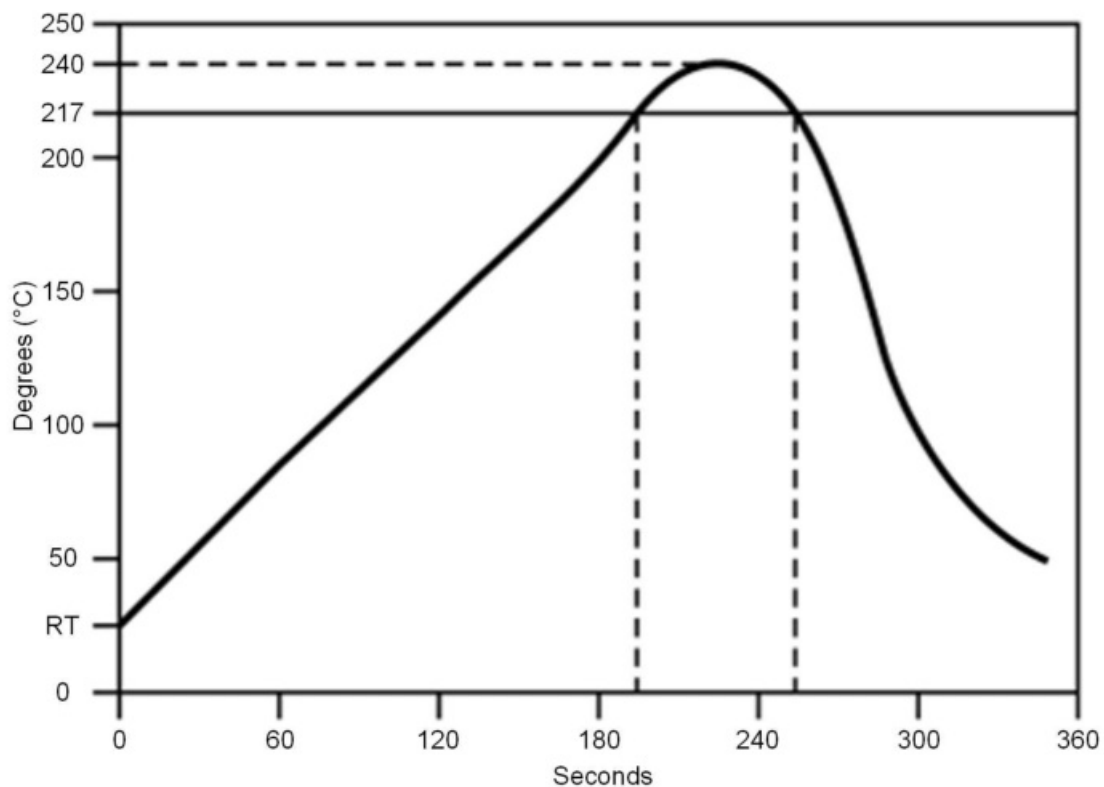

Figure 11-1. Temperature Profile for Evaluation of Solder Heat Resistance of a Component (at Solder Joint)
- Temperature measurement: Thermocouple $d = 0.1$ mm to 0.2 mm CA (K) or CC (T) at soldering portion or equivalent method
- Allowable reflow soldering times: 2 times based on the reflow soldering profile (see Figure 11-1)
- Temperature profile: Reflow soldering will be done according to the temperature profile (see Figure 11-1)